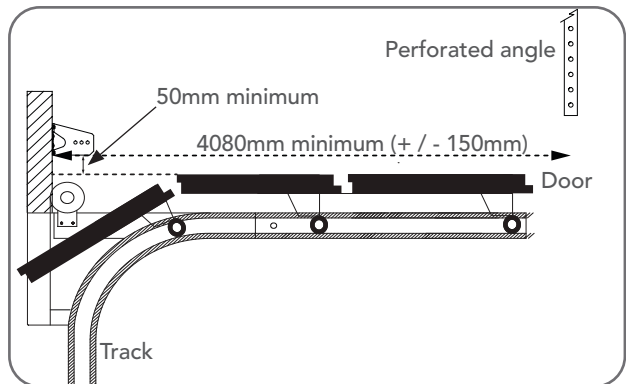

Fig 6.2
- Measure 50mm above the top of the door (at the door's highest point) and mark this position (**Fig. 6.2**).
- Measure 4080mm (+/- 150mm) across the ceiling from the wall centre point (**Fig. 6.2**). Install perforated angle or similar (not supplied).